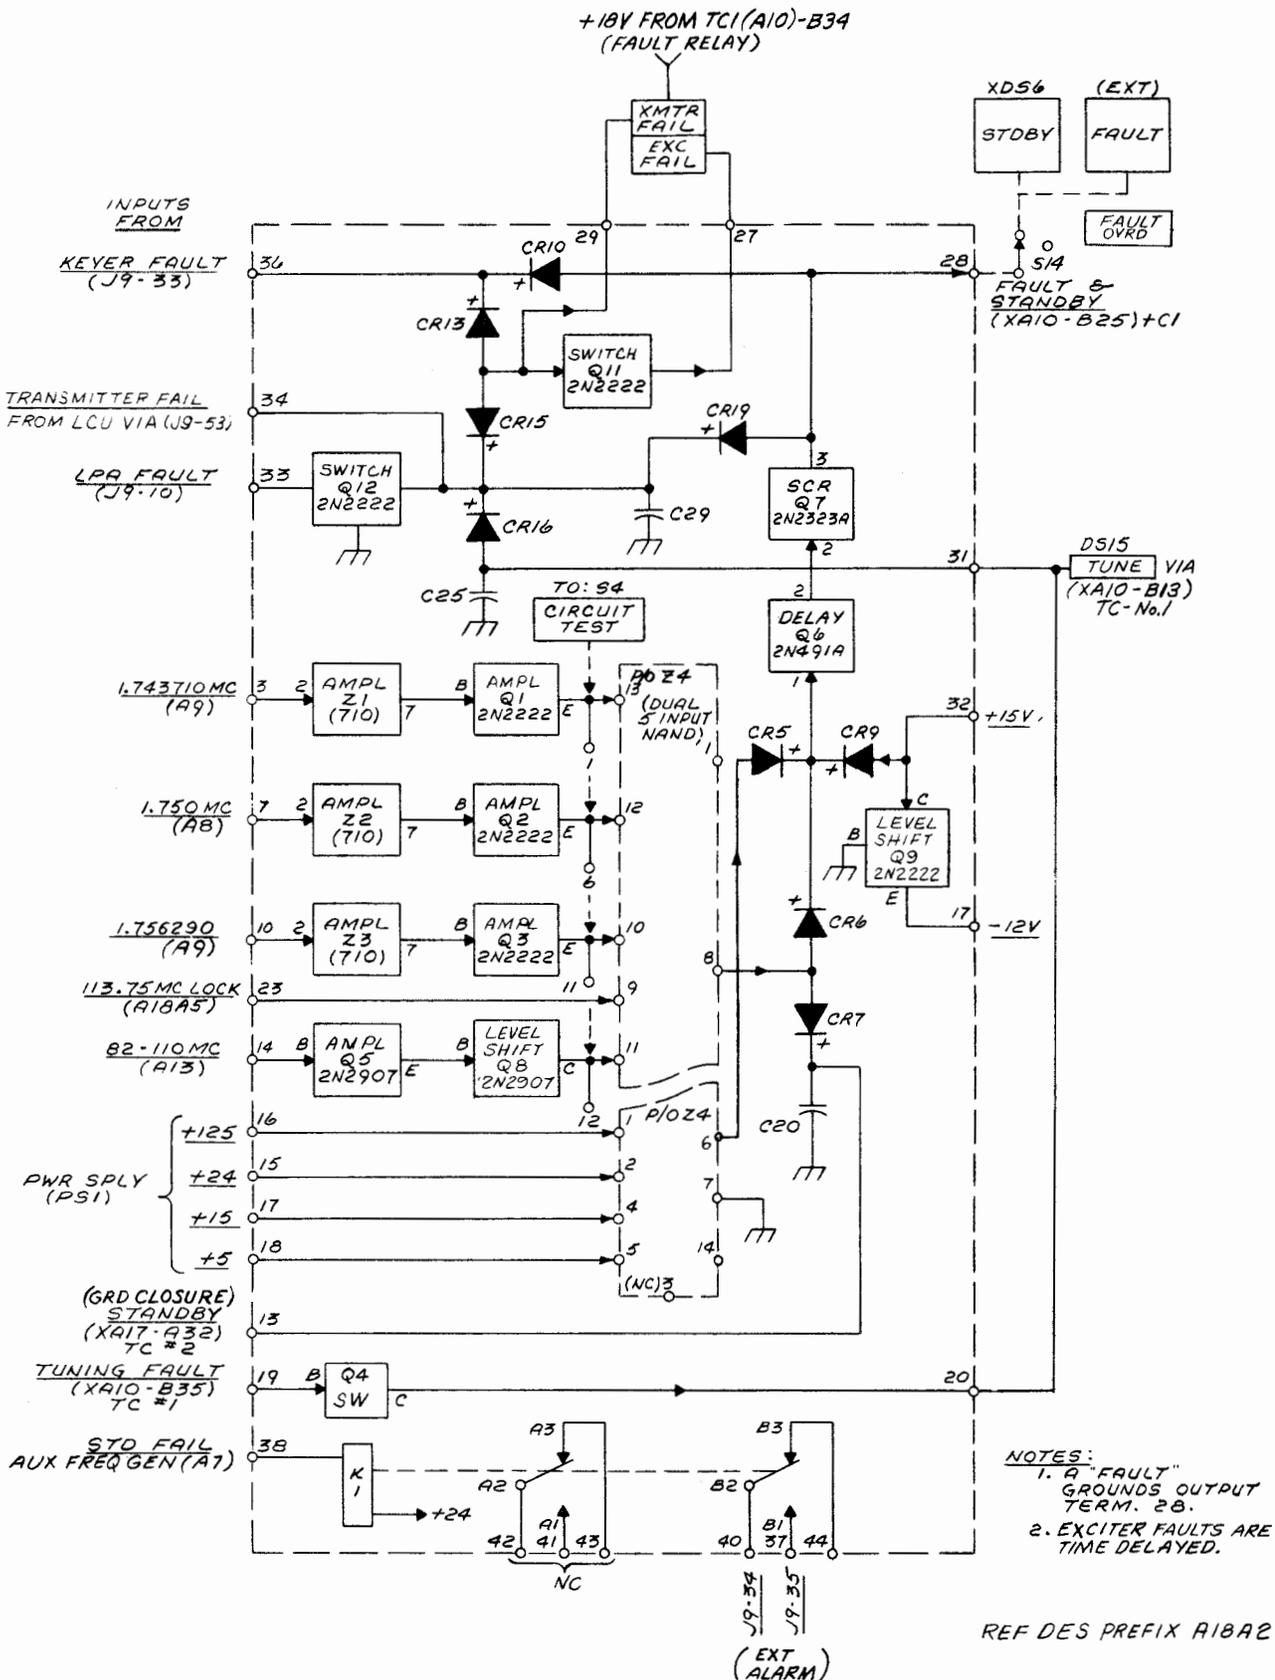

Figure 4-33. Fault Board, Functional Block Diagram
4-30. FAULT BOARD A18A2. (See figures 4-33 and 4-34.)
2. No "sideband" command when "class of emission" command is other than A0 or A2, A3E. The transmitter fail signal appears as a ground closure at terminal 34 of the fault board. The ground closure is applied to the fault circuit as shown in figure 4-33, and acts as described in paragraph (b) above.